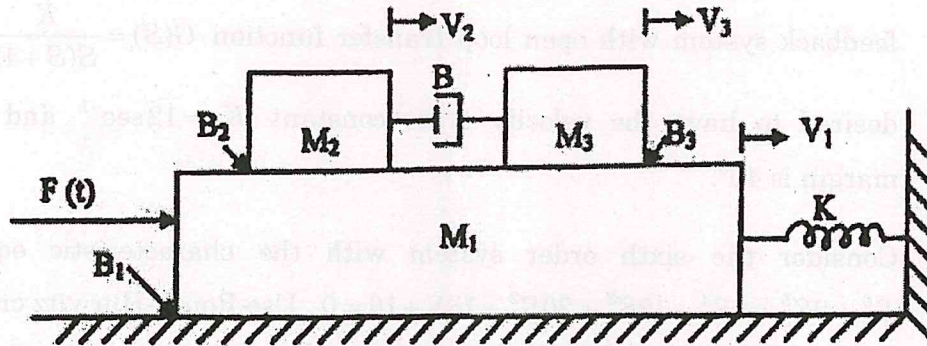

Figure 16a
16. (a) Develop the differential equations governing the mechanical translational system shown in figure 16a and determine the transfer function $\frac{V_1(S)}{F(S)}$